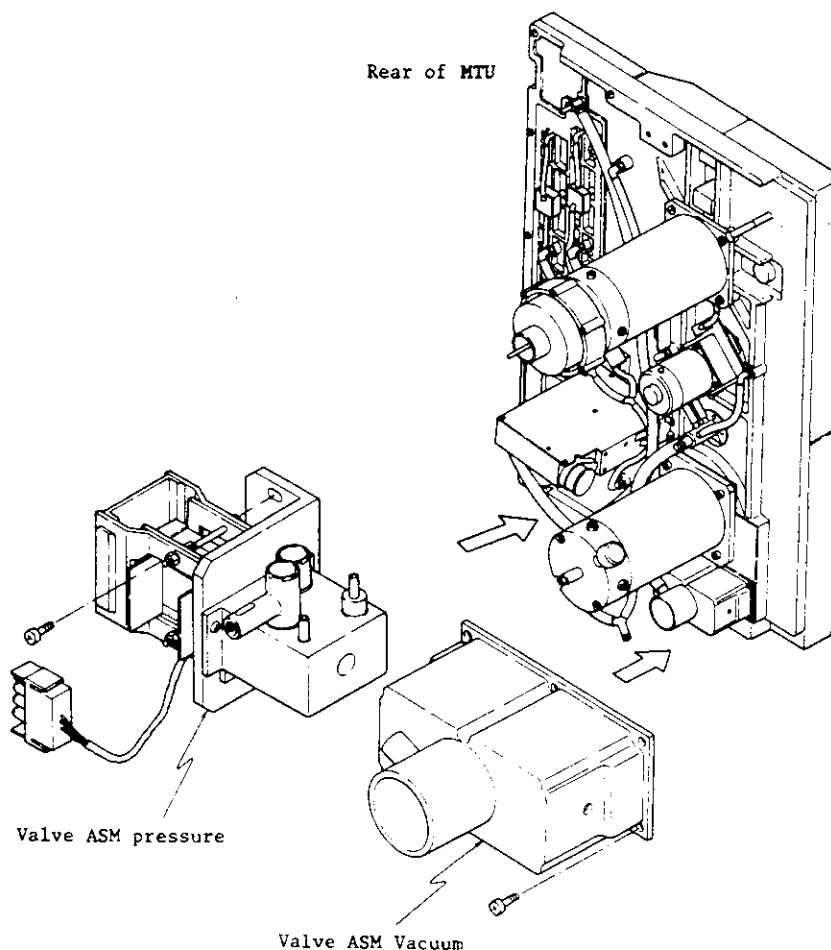

Figure L.35 Vacuum and pressure valve assembly
- (1) Disconnect all hoses and tubes from the rear of vacuum and pressure assembly shown in Figure L.35.
- (2) Disconnect connector CHP65, located on the rear of the MTU power supply unit. To access CNP65, open the lower, left-hand front door of the MTU. Remove six screws and the access plate.
- (3) Remove six mounting screws on the vacuum assembly and four mounting screws on the pressure assembly. Remove the two assemblies. (Note that in some models, the assemblies are jointed to form a single unit.)